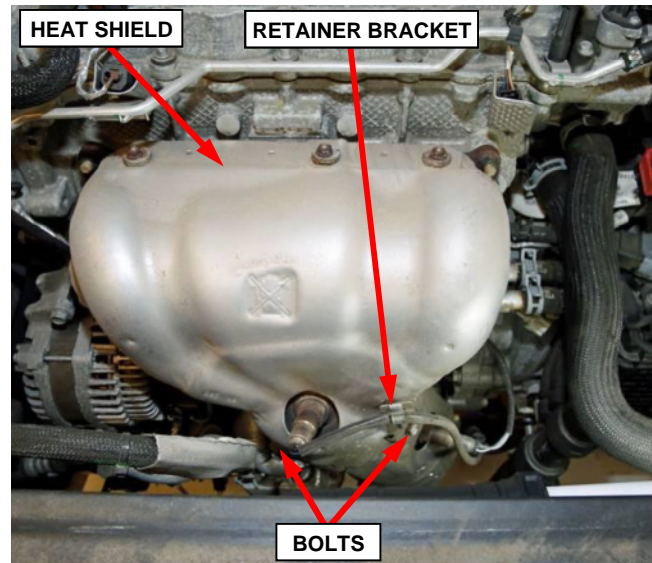

Figure 15 – Maniverter Heat Shield (UF) Chrysler 200, (BU) Jeep Renegade, (KL) Jeep Cherokee, (FB) Fiat 500X, (VM) Ram Promaster City
23. Remove and **DISCARD** the two upper heat shield bolts and if applicable, **SAVE** the oxygen sensor wire harness retainer bracket (Figure 15 or 16).
24. Remove and **DISCARD** the maniverter upper heat shield nuts, then remove and **DISCARD** the maniverter upper heat shield (Figure 15 or 16).